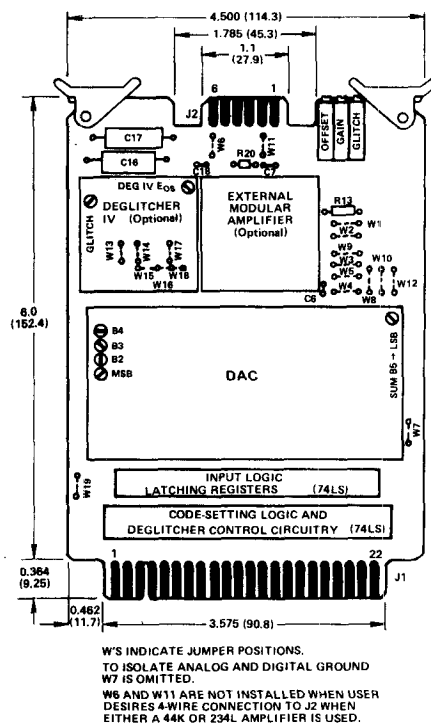

Figure 6. Card-Mounted Assembly. Dimensions shown in inches and (mm).
- Read voltage by nulling voltmeter. This reading should be equal to that of step 1b plus 1LSB. Adjust bit 4 if required (see B4, Figure 6).
- Read voltage by nulling the voltmeter. This reading should be equal to that of step 2b plus 1LSB. Adjust bit 3 if required (see B3, Figure 6).
- Read voltage by nulling voltmeter. This reading should be equal to that of step 3b plus 1LSB. Adjust bit 2 if required (see B2, Figure 6).
- Read voltage by nulling voltmeter. This reading should be equal to that of step 4b plus 1LSB. Adjust bit 1 (MSB) if required (see MSB, Figure 6).
If insufficient range exists on any adjustment, then a separate adjustment for the weight of bits 5-through-the-LSB (see Sum B5 \rightarrow LSB, Figure 6) should be performed. This condition will probably not occur on bit 2, 3 and 4 but might occur on the MSB. If adjustment of the sum of bits 5-through-the-LSB is made, the trim procedure for all bits should be repeated. Obviously, since the procedure affects the weight of individual bits, it affects the overall gain of the DAC. The final step should be adjustment of gain (user supplied adjustment external to module, or pot at edge of mounting card).
Analog Devices offers an optional Card-Mounted Assembly designed to provide optimum performance at the 18-bit level. As shown in Figure 6, this 4 1/2" X 6" printed circuit card includes the appropriate DAC GAIN and OFFSET adjustment potentiometers, power supply bypass capacitors and input registers. The Card-Mounted Assembly can be ordered with custom code-setting logic, external output amplifiers, and a Deglitcher IV.